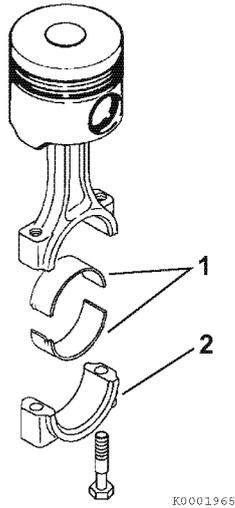

Figure 6-101
4. Reinstall the bearing inserts (1, **Figure 6-101**) in the connecting rod and cap.
6. Apply a light coat of clean engine oil to the rod cap bolts. Reinstall the connecting rod cap (2, **Figure 6-101**). Tighten the connecting rod bolts to the specified torque in two stages (1/2 then full torque). *See Special Torque Chart on page 6-16 for specifications.*